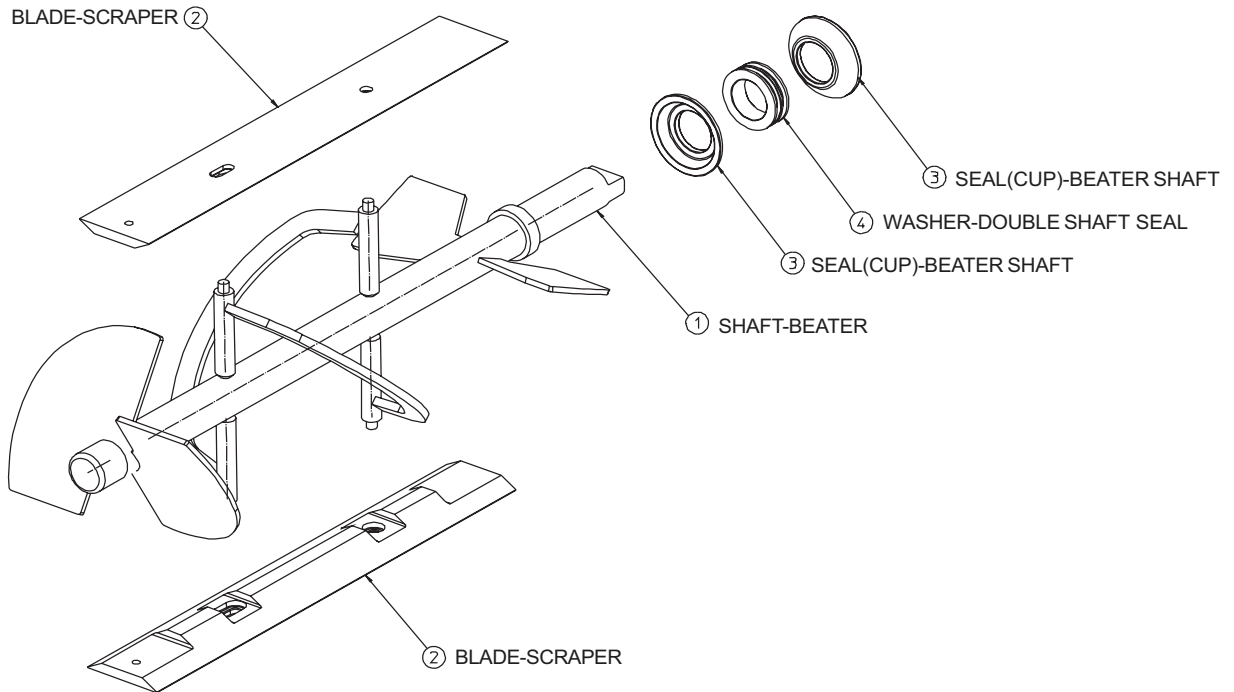

Figure 6-3 Beater Shaft Assembly
11. Remove the beater bearing bushing (figure 6-2, 3) and beater shaft (figure 6-3) from the cylinder. Then remove the scraper blades (2) and shaft seal (3,4) from the beater shaft (1). Remove the cup seals (3) from the washer (4) on the shaft seal assembly . Remove the drip tray.